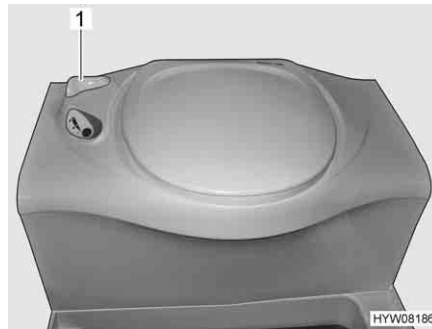

Fig. 260 Thetford toilet
- Before flushing open the sliding trap of the Thetford toilet. To do this, turn the slide lever (Fig. 260,1) in an anticlockwise direction.
- After flushing close the sliding trap. To do this turn the slide lever (Fig. 260,1) in a clockwise direction.